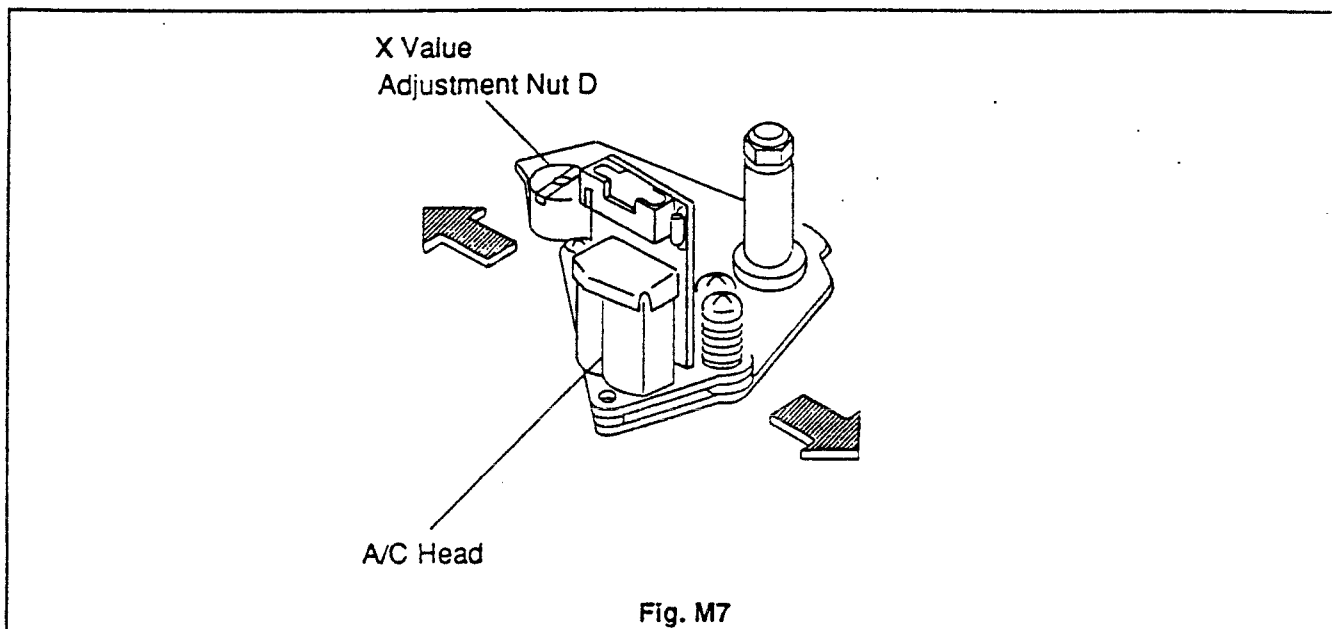

Fig. M7
5. Adjust the X Value Adjustment Nut D in Fig. M7 for maximum PB FM signal.